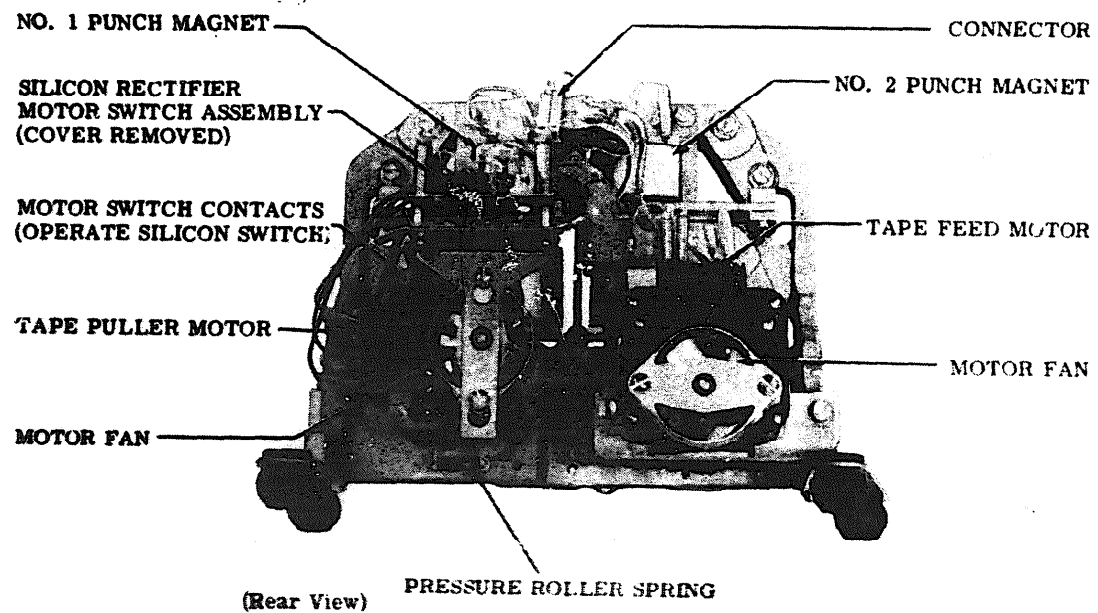

Figure 3- Five-Level High Speed Tape Punch (Early Design)
2.08 The high speed tape punch unit has two shaded pole motors (Figures 3 and 5). The input to these motors is 115 v ac, $\pm 10\%$, 50 or 60 hertz (depending on unit application), 75 watts (each motor) at nominal voltage and 70°F ambient temperature. The unit may be operated in an environment ranging from 0 to 90 percent relative humidity and at an ambient temperature of +40°F to +110°F.